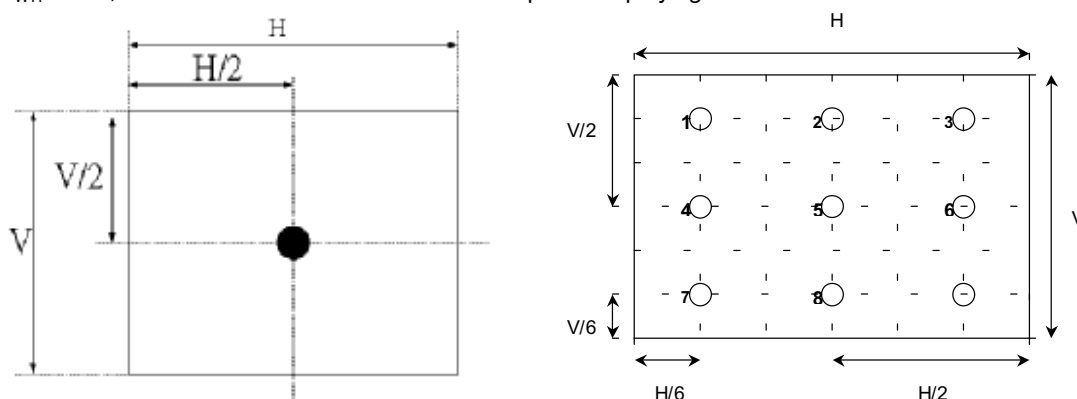

Fig.4-2 Optical measurement point
2. Surface luminance is luminance value at point 1 across the LCD surface 50cm from the surface with all pixels displaying white. From more information see FIG 4-2. When $V_{DDB} = 24V$, $I_{DDB} = \text{TBD}$.